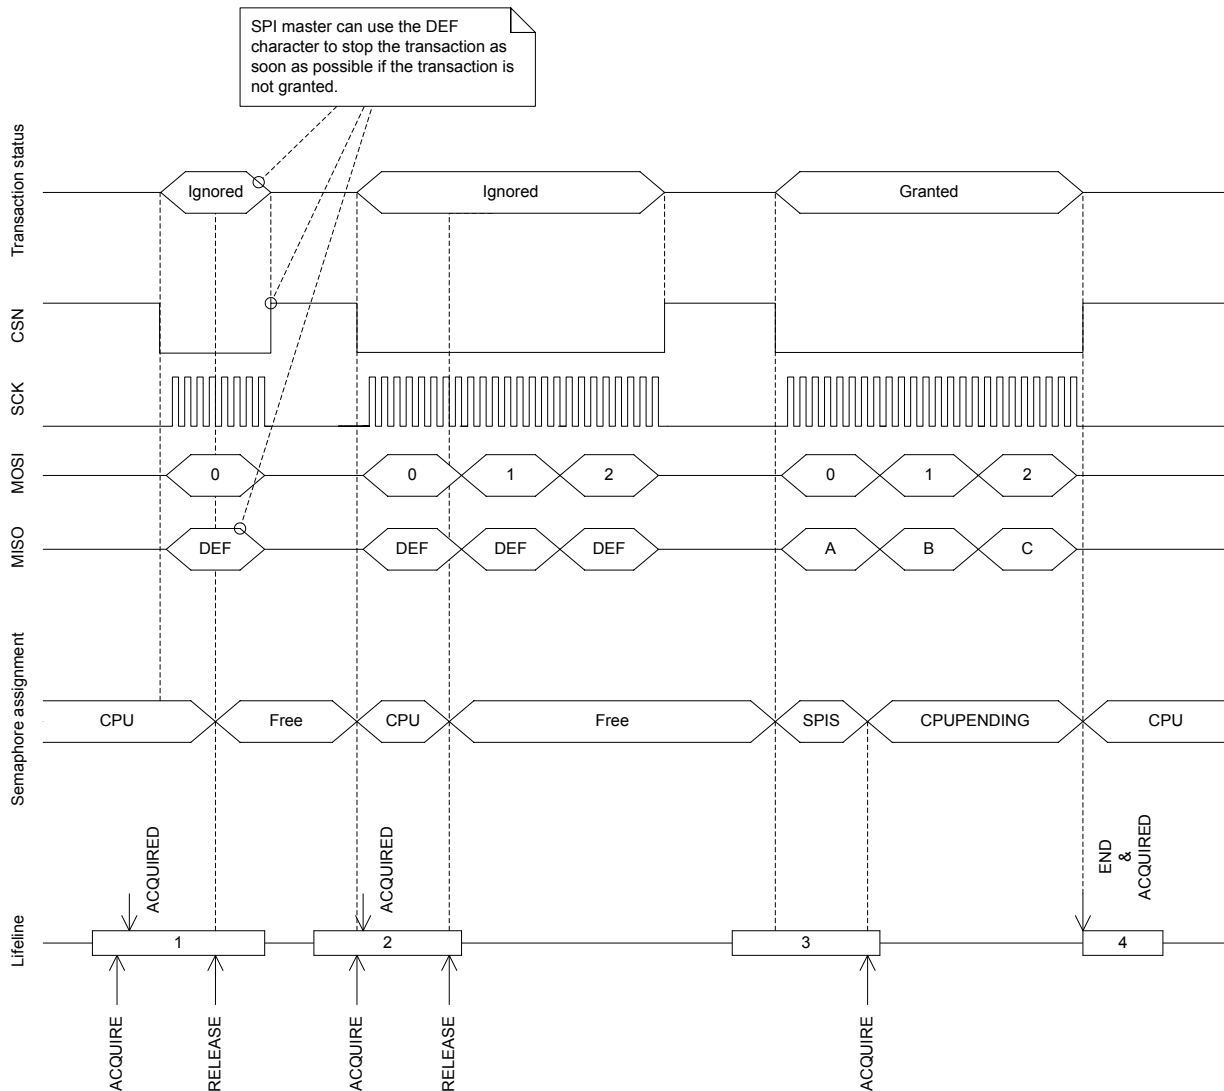

Figure 195: SPI transaction when shortcut between END and ACQUIRE is enabled
See Figure 195: SPI transaction when shortcut between END and ACQUIRE is enabled on page 554.
the RELEASE task. This is illustrated in Figure 195: SPI transaction when shortcut between END and ACQUIRE is enabled on page 554. Triggering the RELEASE task when the semaphore is not granted to the CPU will have no effect.
The SPI slave will try to acquire the semaphore when CSN goes low. If the SPI slave does not manage to acquire the semaphore at this point, the transaction will be ignored. This means that all incoming data on MOSI will be discarded, and the DEF (default) character will be clocked out on the MISO line throughout the whole transaction. This will also be the case even if the semaphore is released by the CPU during the transaction. In case of a race condition where the CPU and the SPI slave try to acquire the semaphore at the same time, as illustrated in lifeline item 2 in Figure 195: SPI transaction when shortcut between END and ACQUIRE is enabled on page 554, the semaphore will be granted to the CPU.